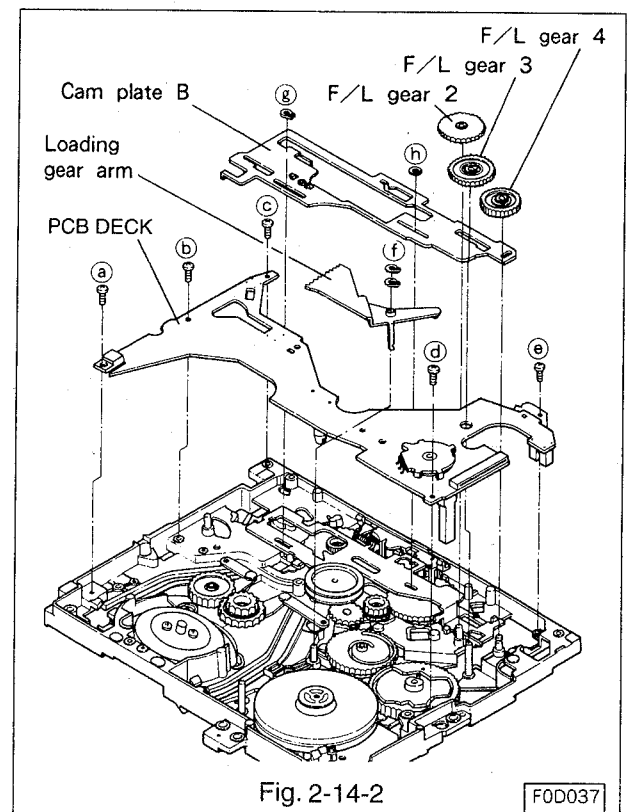
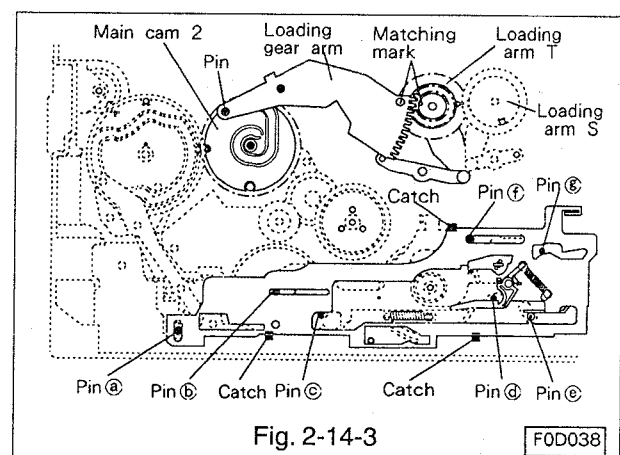

Fig. 2-14-2
Fig. 2-14-3
- Detach two grip rings (f) shown in Fig. 2-14-2 and remove the loading gear arm.
- Unfasten the catches and remove the F/L gear 2, 3 and 4.(Refer to Fig. 2-14-2.)
- Remove grip ring (g) and cut washer (h), and unfasten three catches shown in Fig. 2-14-3 to remove the cam plate B.(Refer to Fig. 2-14-2.)
- Unscrew five fastening screws (a ~ e) and remove the PCB DECK.(Refer to Fig. 2-14-2.)
- Install the cam plate B by paying attention to the pin (a ~ g) positions shown in Fig. 2-14-3, and secure the plate with three catches, grip ring (g) and cut washer (h).
- Line the matching mark on the loading arm T and that on the loading gear arm as shown in Fig. 2-14-3, and assemble the loading gear arm so that the pin of the loading gear arm shall enter the groove of the main cam 2. Secure the loading gear arm with two grip rings (f).
- Assemble the F/L gear 2, 3, and 4 to the shafts.(Refer to Fig. 2-14-2.)
- I. Make certain that the mode switch is in the eject position. Fasten the PCB DECK assembly with five screws and solder the FE head terminals. (Refer to Fig. 2-14-2 and 2-14-1.)